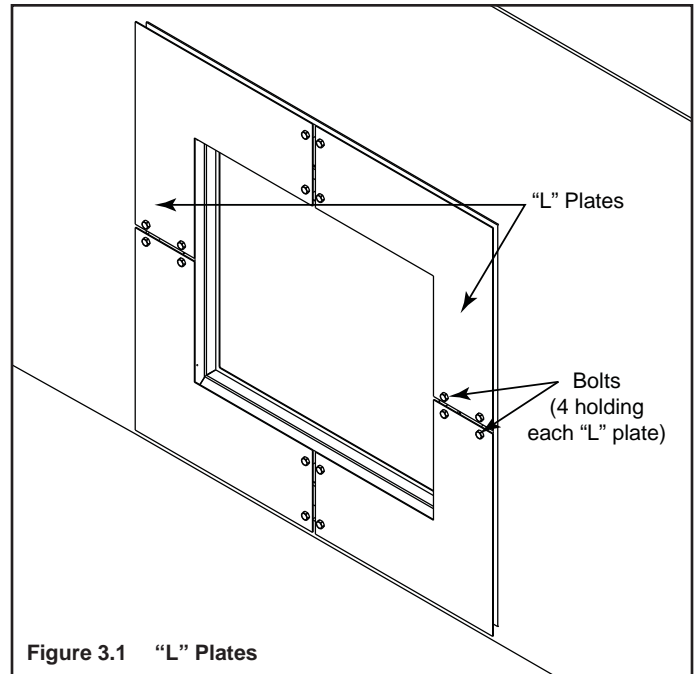

Figure 3.1 "L" Plates
- Remove the "L" plates from the fireplace by removing the bolts holding them in place (refer to Figure 3.1).